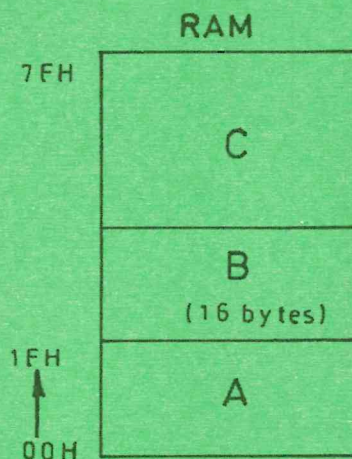

Fig. 5
- (I) LCALL;
- (II) RET I. (5 marks)
- (d) Figure 5 shows a memory map of 8051 internal RAM.